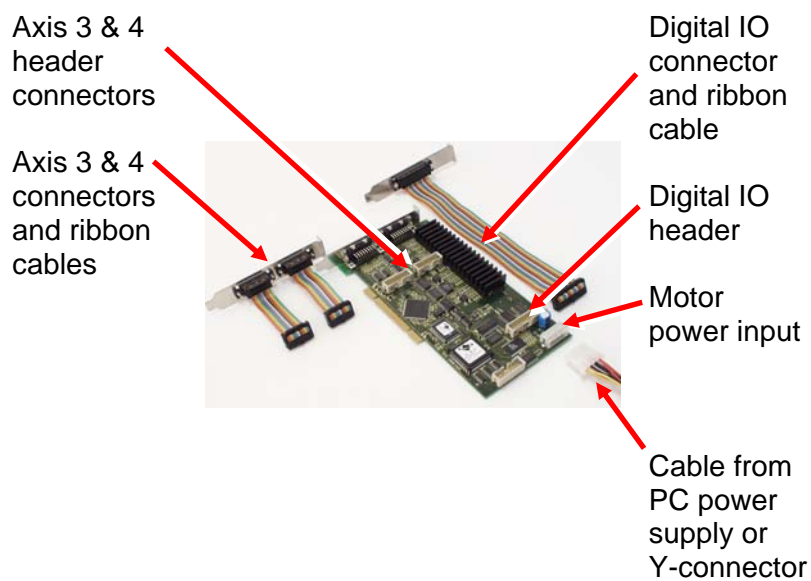

Fig. 1: C-843 and connectors
- 2 With C-843.41 only: to use motor axes #3 and #4 of the C-843.41, you must connect the two ribbon cables of the included 2-connector bracket adapter to the corresponding 16-pin header connectors on the C-843.41 board (for component locations see Fig. 1).
- 3 Optional: to make the digital I/O lines of the C-843 available (see section 3.4.3 on p. 18), you must connect the ribbon cable of the included sub-D-25 bracket adapter to the 26-pin Digital I/O header on the C-843 board (for component locations see Fig. 1).